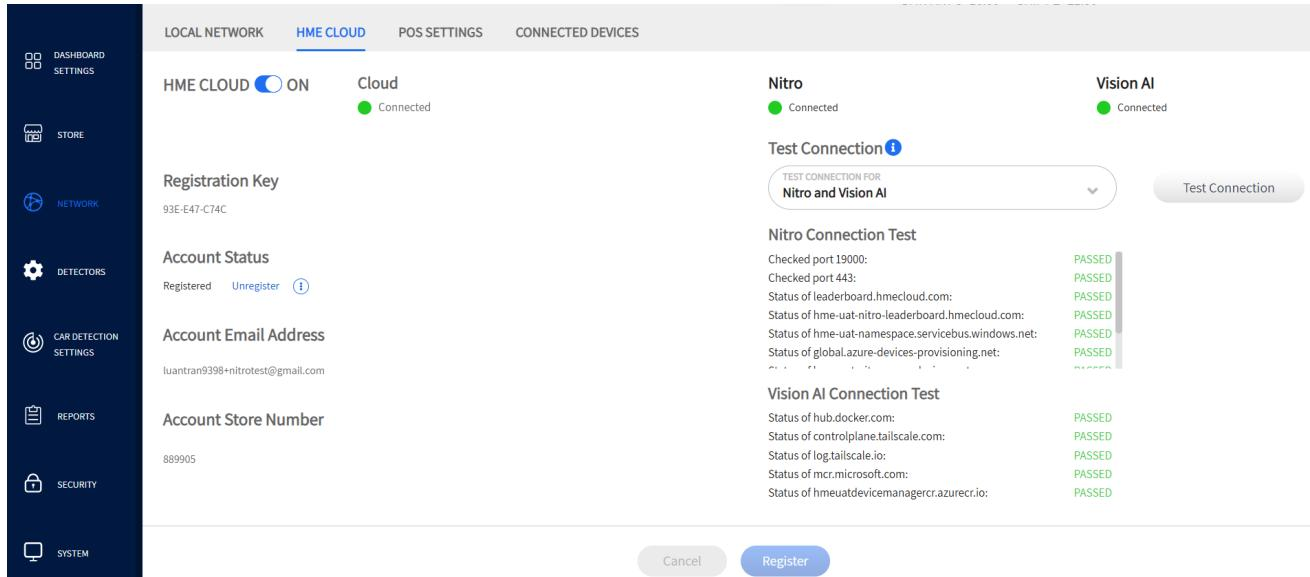

Fig. 5.2
**Example:** Fig 5.2 shows you have turned the HME CLOUD feature “ON.” The Nitro Connection Status shows that you are connected to the Cloud. The Registration Key is a unique identifier for your store. All HME products installed at your store will use this registration key. The Account Email Address is populated when you are registered. To change this email address, you must first unregister by clicking on the word Unregister. An email address only needs to be entered if you have an account set up. If not, leave blank and click “Save” to finalize.
The **Connection Status** fields at the top of the screen indicate what is connected or disconnected (green or red, respectively). The ZOOM Nitro store in Fig. 5.2 is connected to the Cloud but also has Nitro Vision AI installed, so a green **Connection Status** for all three is displayed. The “**Test Connection**” drop-down list allows you to select which systems you would like to run a connection test on. This connection test can reveal potential problems, if there are any. Even if you don’t have a system such as Vision AI installed, this test can still be run and is a viable test if you desire to have Vision AI installed. Fig. 5.2 shows an example of what connections are checked when this connection test is performed. In this example, both Nitro and Vision AI were tested, and all the connection tests displayed beneath the “**Test Connection**” field have passed, so both system connections are good.